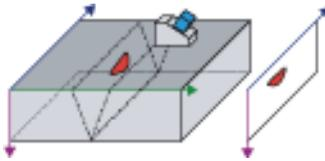

Figure 4-17 Side (B-scan) view
- **Show Side (B) View** ()
The Side (B) view is defined by the ultrasound axis (represented by the vertical axis in RayTracing view) and the scan axis (represented by the horizontal axis). The Side (B) view provides a B-scan view (see Figure 4-17 on page 46).